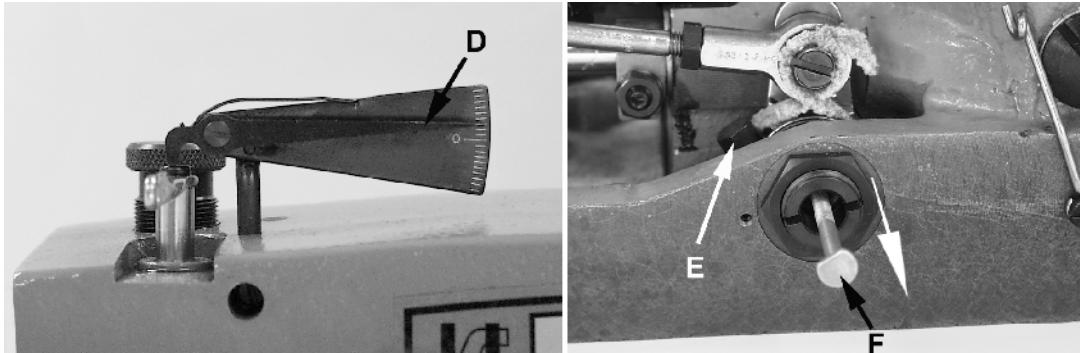

Fig 3A
If pointer (D) on the indicator reads above the "0" (Fig. 3A). Loosen screw (E) in the looper drive lever and pull screw (F), (99271), slightly toward the operator. Retighten screw (E) in the looper drive lever and recheck the synchronization as outlined above. Repeat as necessary to obtain proper synchronization.
If the pointer (D) on the indicator reads above the "0" (Fig. 3A). Loosen screw (E) in the looper drive lever and pull screw (F), (99271), slightly toward the operator. Retighten screw (E) in the looper drive lever and recheck the synchronization as outlined above.